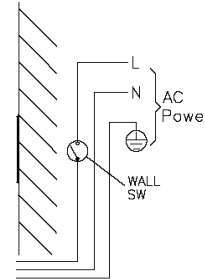

FIGURE 2
- (1) WARNING isolate the power supply.
- (2) An internal single pole wall switch is recommended to allow easy control of the LED Floodlight. FIGURE 2.
- (3) Connect the power supply to the pre-wired cable provided with the fitting. If the connection is made outdoors a suitable IP box must be used to make the connections. Alternatively the pre-wired cable may be passed through the mounting surface and connected internally.
- (4) Connect the BROWN (Live) wire to the mains live connection via a wall switch (Recommended). Connect the BLUE (Neutral) wire to the mains neutral connection. Connect the GREEN/YELLOW wire to a suitable earth point. The LED Floodlight must be earthed.
- (5) The LED Floodlight is a sealed unit. There are no user serviceable items inside. Do not remove the pre-wired supply cable. This will invalidate the warranty.